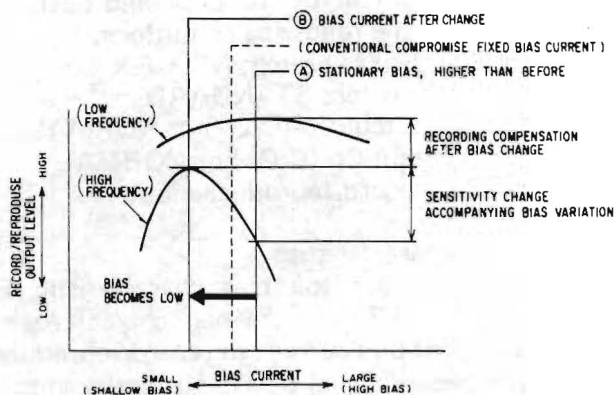
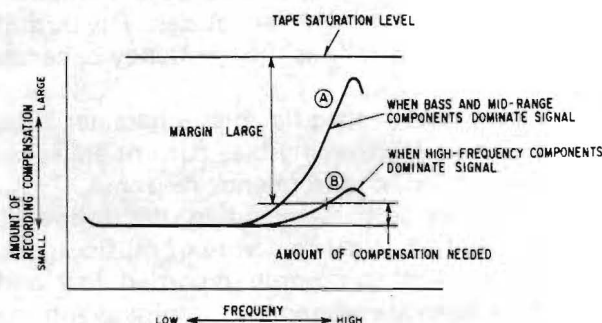

Fig. 3-36 Tape bias characteristic (2)
Fig. 3-37 Recording equalization characteristic (2)
- When bass and mid-range components dominate in the input signal or the overall level of the input signal is low, a fixed high bias is applied. (See ① in Fig. 3-36.) In this case, frequency response at low frequencies can be improved by selecting a bias more suitable for lower frequency content than the conventional fixed bias.
- When the input signal involves high-level, high-frequency components, bias is decreased instantly depending on the frequency components and level, increasing the sensitivity at high frequencies. (See ② in Fig. 3-36.)
- When bass and mid-range components dominate the input signal and bias is selected as ① in Fig. 3-36, tape sensitivity is low at high frequencies and, therefore, the recording equalization is that of curve ① shown in Fig. 3-37. With curve ①, the amount of boost at high frequencies is very large but the level of high-frequency components of the input signal is low. Therefore, distortion will not occur during recording.
- With high-level, high-frequency signals, bias is lowered. (See ② in Fig. 3-36.) With lower bias, tape sensitivity increases at high frequencies and the amount of recording equalization may be reduced, as shown by curve ② in Fig. 3-37.
- c. Since the variable equalizer is basically a low-pass filter, reduction in turnover frequency results in increased attenuation at high frequencies. Because of this, the recording signal passing through the variable equalizer varies as curves ① and ② shown in Fig. 3-37.